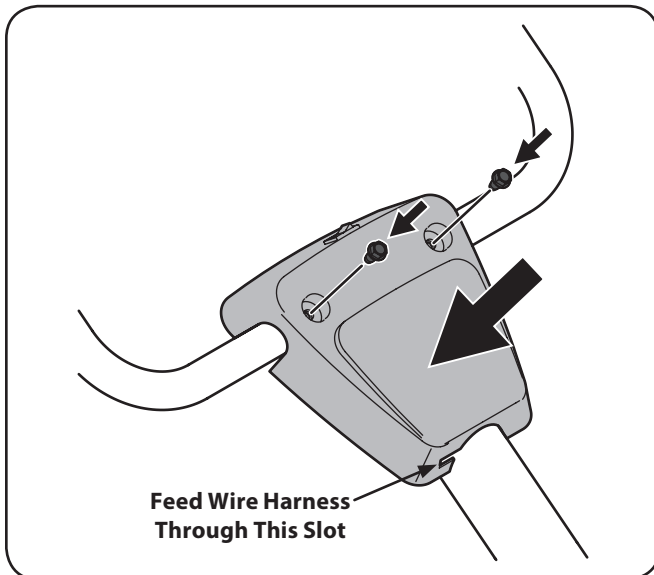

Figure 3-4
4. Install the handle panel using the hex washer screws removed in Step 3. See Figure 3-4.
5. Feed the wire harness down the handle through the slot on the right side of the tiller handle. See Figure 3-4.